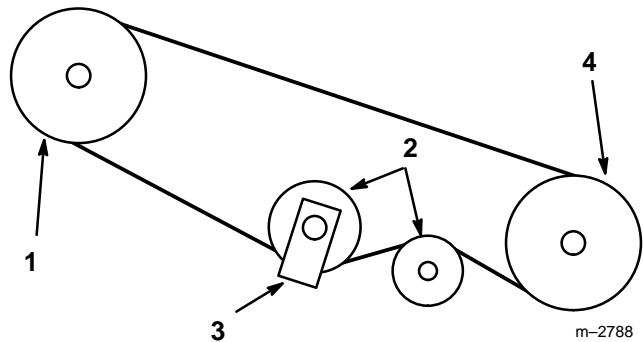

Figure 10
15. Route belt between belt guide and around idler pulleys (Fig. 10).
16. Rotate idler bracket to stretch spring and slip belt over snowthrower pulley (Fig. 10),